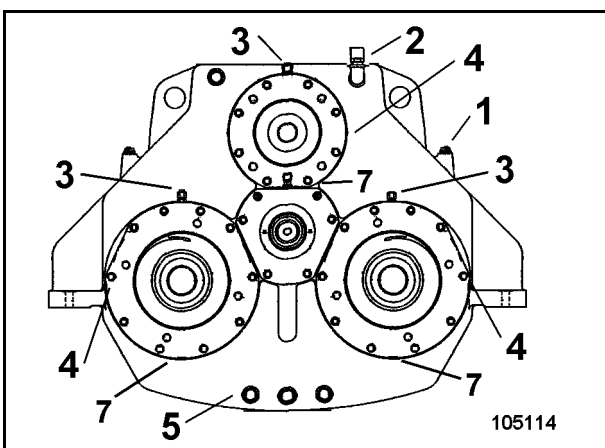

Fig. 3-103:
- Unscrew dipstick (1, Fig. 3-103:) and wipe.
- Insert dipstick (1) fully again and withdraw a second time.